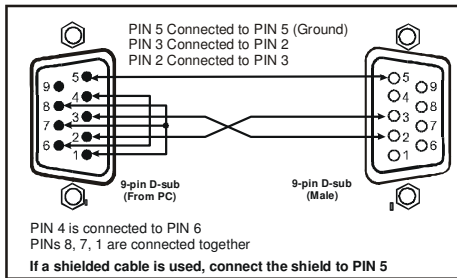

Figure 3: Connecting a PC without using a Null-modem Adapter
- Connect the RS-232 9-pin D-sub port on your PC to the RS-232 9-pin D-sub rear panel port on the **VP-436**, as Figure 3 illustrates